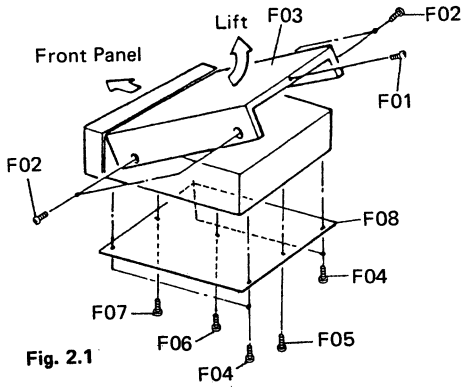

Fig. 2.1
- (1) Refer to Fig. 2.1.
- (2) Remove F01 and F02, then lift and remove F03 (Top Cover Ass'y).
- (3) Remove F04, F05, F06 and F07, then lift and remove F08 (Bottom Cover Ass'y).